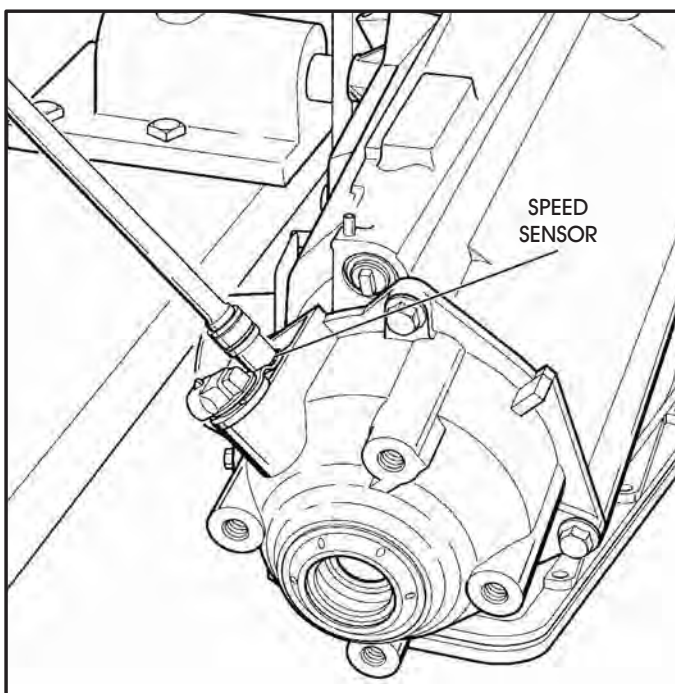

Figure 225
15. Install speed sensor retaining bolt and torque the bolt to 11 N·m (98 in.lb.), as shown in Figure 225.